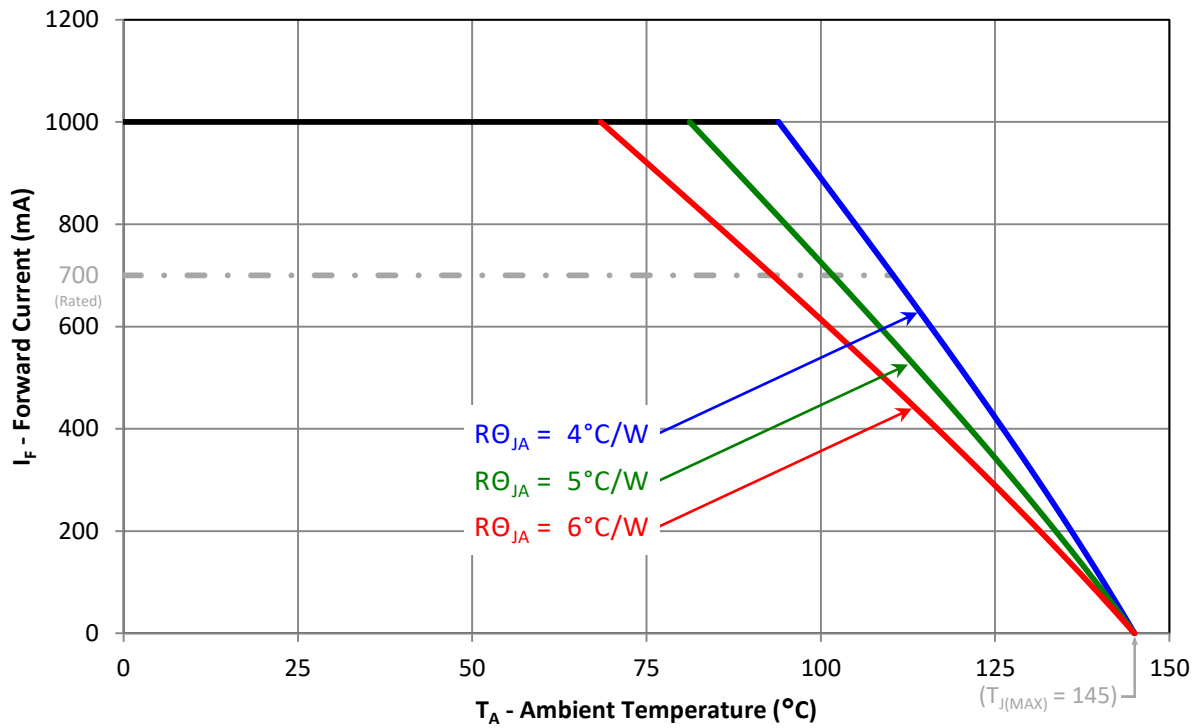

Figure 11: Maximum forward current vs. ambient temperature based on  $T_{J(MAX)} = 145^\circ\text{C}$ .
- Maximum DC forward current (per die) is determined by the overall thermal resistance and ambient temperature. Follow the curves in Figure 11 for current derating.